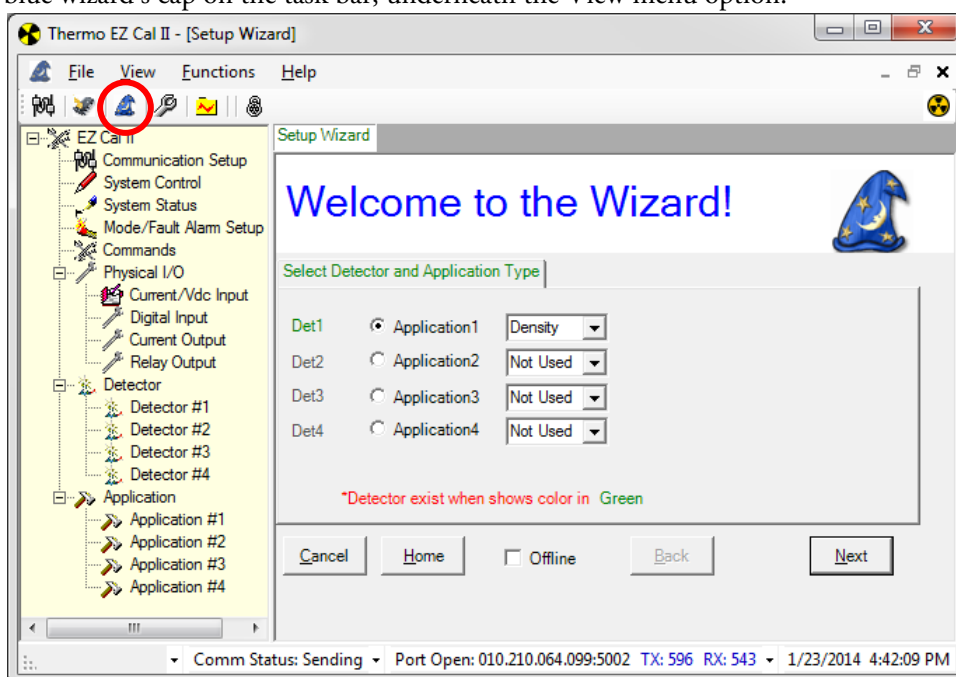

Figure 3-7. Detector and Application Type Selection
- Home – Returns the user to the Detector and Application Type Selection screen, Figure 3-7.